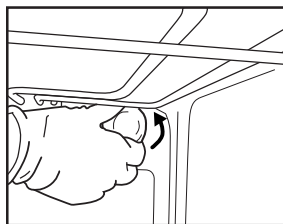

Fig. 9
2. Unscrew the lamp cover (Fig. 9), replace the lamp (see note for lamp type) and screw the lamp cover back on.